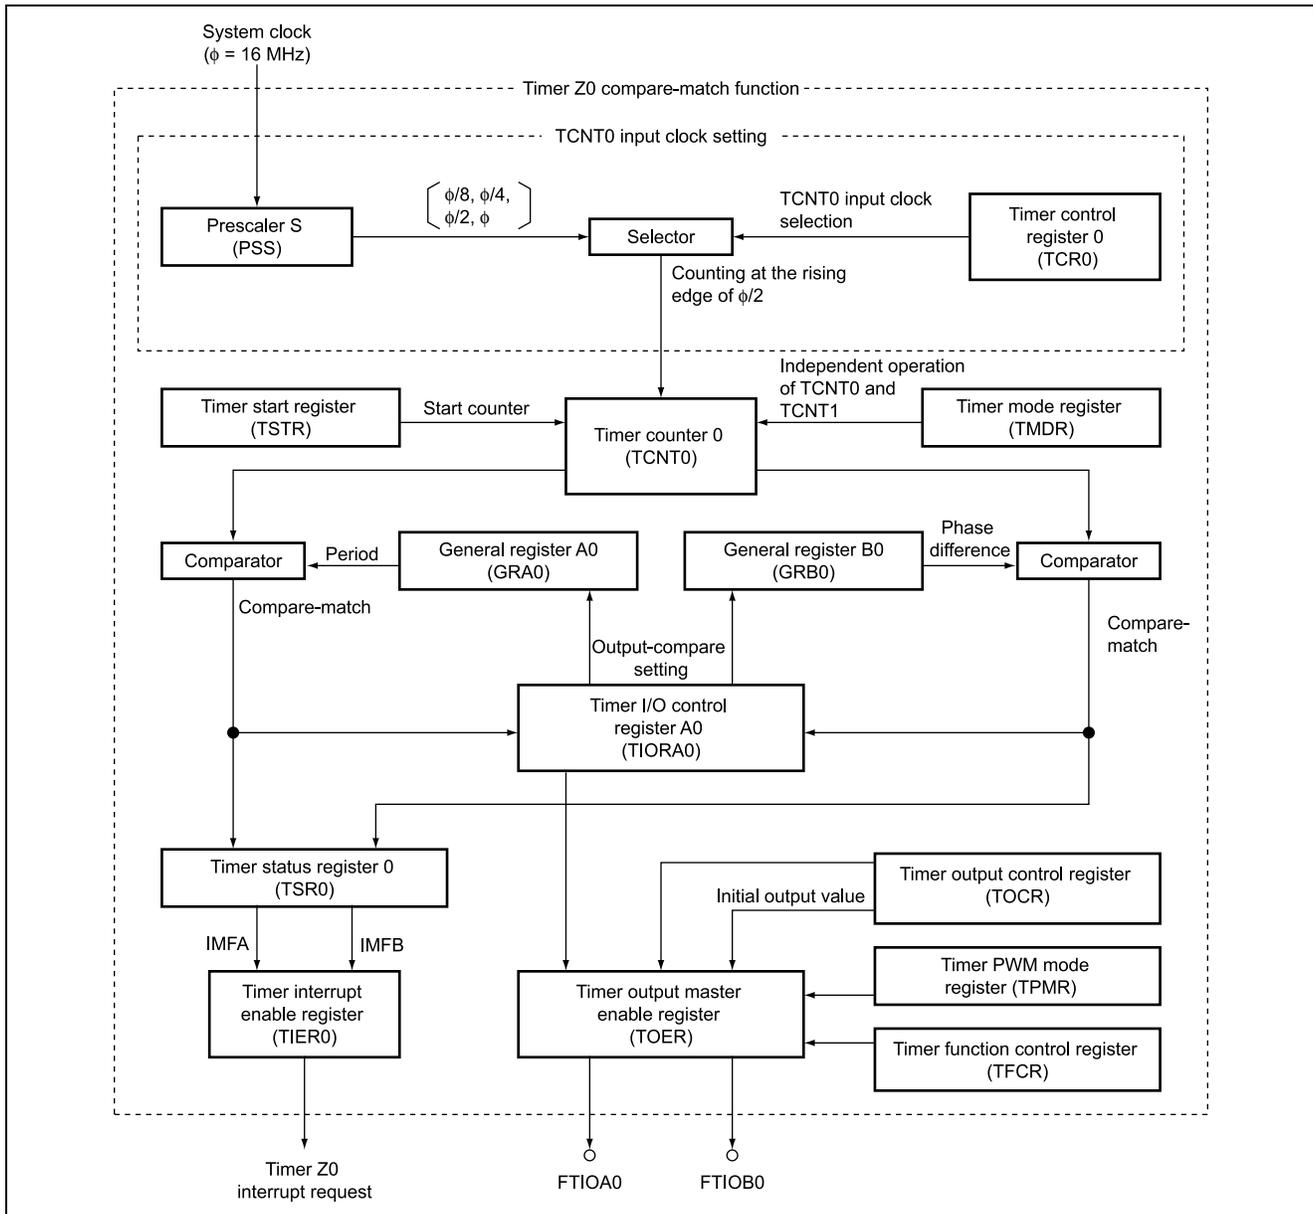

Figure 2.1 Block Diagram of Timer Z0
1. In this sample task, timer Z compare-match function is used to output 50%-duty cycle pulses with a desired phase difference. Figure 2.1 is a block diagram of timer Z output-compare function. The elements of the block diagram are described below.